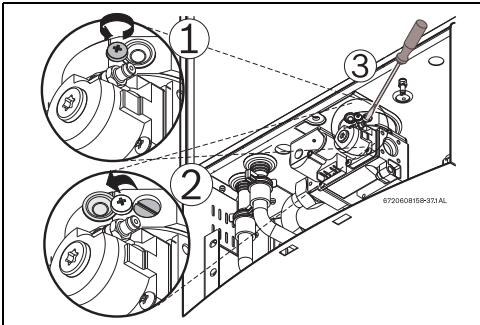

Fig. 61 Adjusting P1 CO2 level
- ▶ Loosen yellow painted Phillips screw (1) and cover should rotate down (2) revealing a recessed brass slotted screw. Fig. 61.